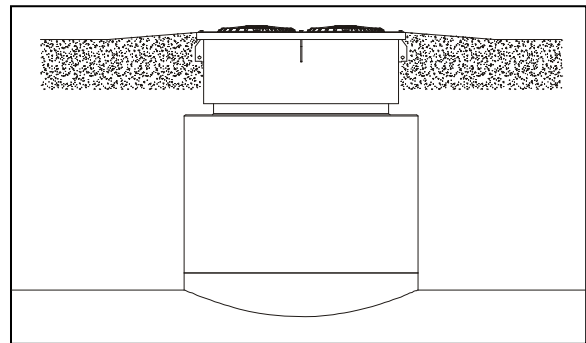

Figure 7
22. It is recommended that the paved contours around POMECA covers be adequately sloped to direct water flow away from the cover, and directing water runoff from adjacent areas away from POMECA covers. (See Figure 7.)